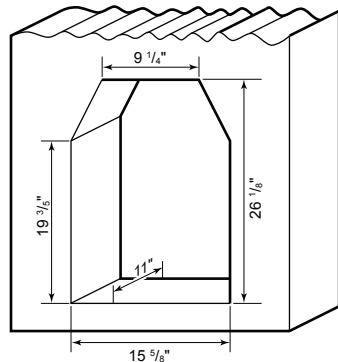
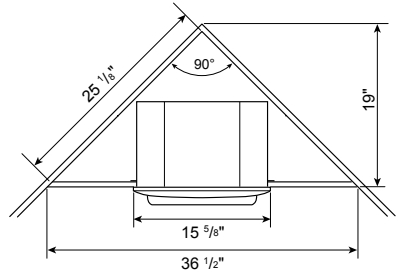

Figure 9 - Rough Opening for Wall Installation
Figure 10 - Rough Opening for Corner Installation
1. Frame in rough opening. Use dimensions shown in Figure 9 for the rough opening. If installing in a corner, use dimensions shown in Figure 10 (page 13) for the rough opening. The height is 19", which is the same as the wall opening above.